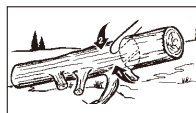

Fig. 13B
2. Log supported on 1 end: First, cut from bottom (underbuck) 1/3 diameter of log to avoid splintering. Second, cut from above (overbuck) to meet first cut and avoid pinching (Fig. 13B).